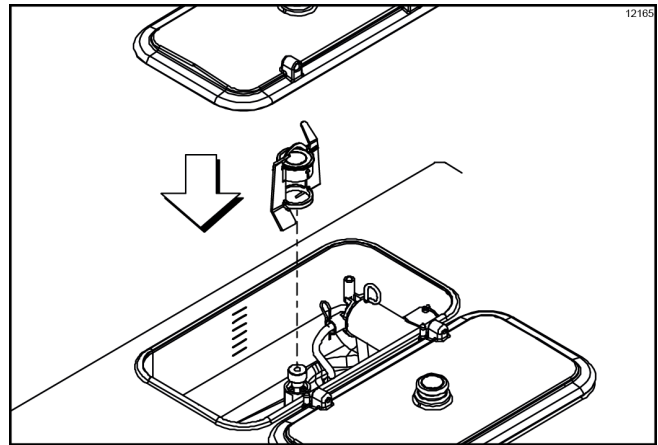

Figure-53
8. Install the agitator back onto the agitator driveshaft housing. Replace the hopper cover. (See Figure-53.)